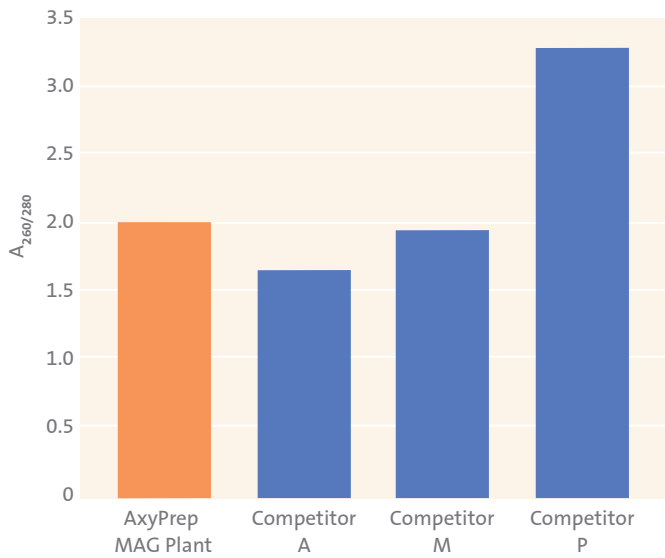

Figure 4. Axygen AxyPrep MAG PCR Clean-up kit provides cleaner primer dimer removal compared to other brands, with no DNA carry over.
- ▶ Cleaner primer dimer removal (Figure 4)